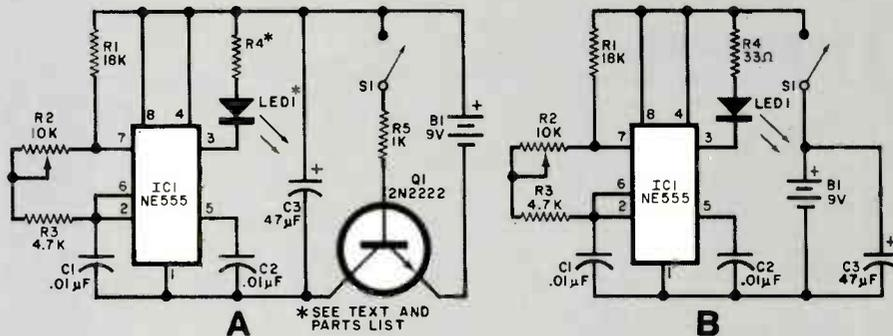

Fig. 1. Schematic diagrams of the box-style (A) and gun-style (B) infrared transmitters.
**About the Circuit.** The schematic diagrams of two versions of the AD\*ZAP transmitter are shown in Fig.1. At A is the transmitter circuit designed for installation in a plastic enclosure approximately the size of a pack of cigarettes.